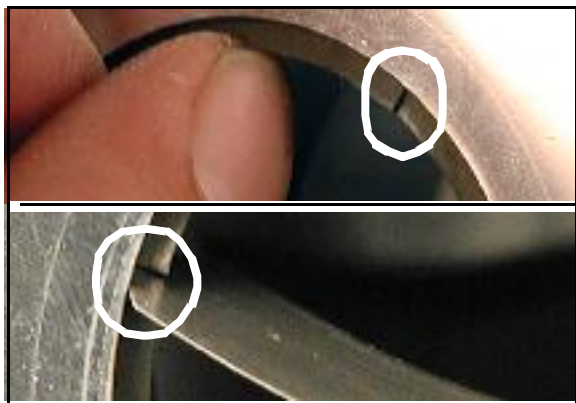

Fig. 8
1. Insert the top ring into the cylinder about an inch below the surface of the head ([A] Fig. 8).
2. Measure gap with feeler gauge ([B] Fig. 8) as shown.